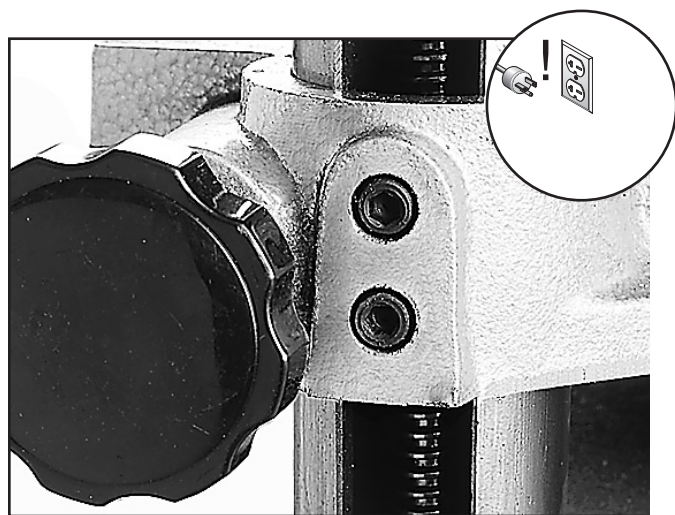

Figure 27. Close up of table micro-adjustment screws (one side shown only).
9. Micro-adjust the table position by loosening the cap screws shown in **Figure 27** and lifting the table upward or downward until the table and cutterhead are in alignment.